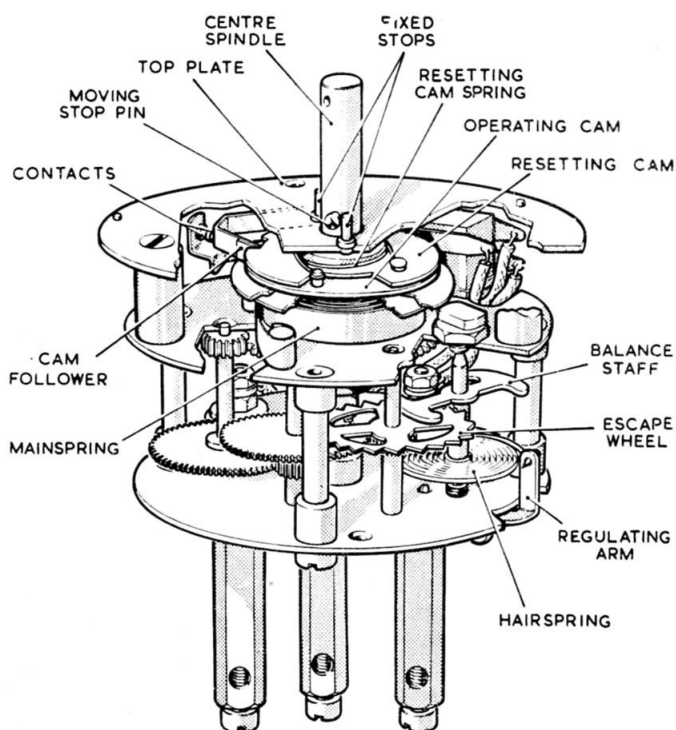

Fig. 2. Cutaway view of mechanism
2. A cutaway drawing of the switch is shown in *fig. 2*. The mechanism is contained in a black plastic case, with a dial marked with white lines at the OFF and ON positions. As the operating pointer is turned to set the switch, this winds the mainspring and starts the clockwork mechanism.